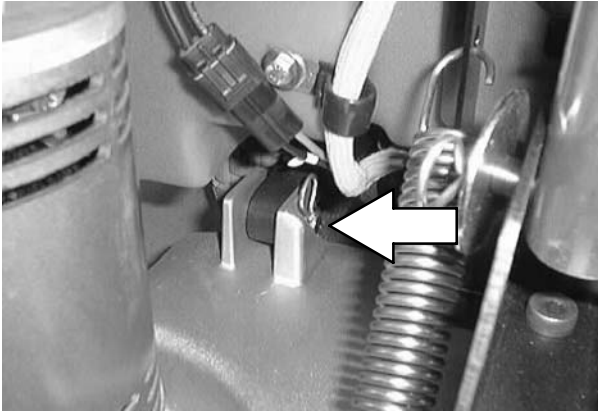

FIG. 4
4. Remove the two clevis pins from the scrub head lift arms and disconnect the scrub head lift arms from the scrub head. Refer to FIG. 4.